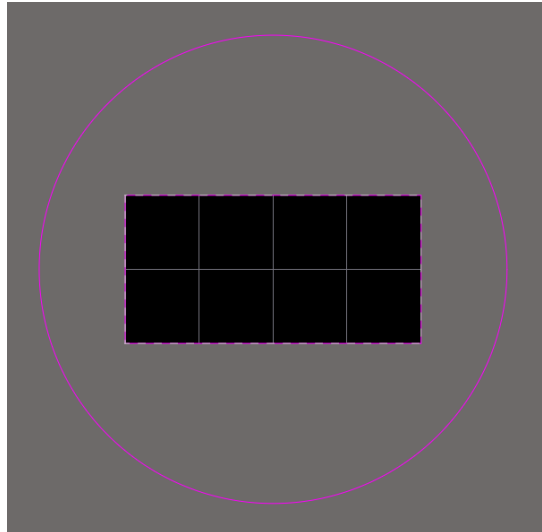

Figure 9. Example Board Shape defined from the rectangle
33. Your PCB should now be rectangular and similar to Figure 9.